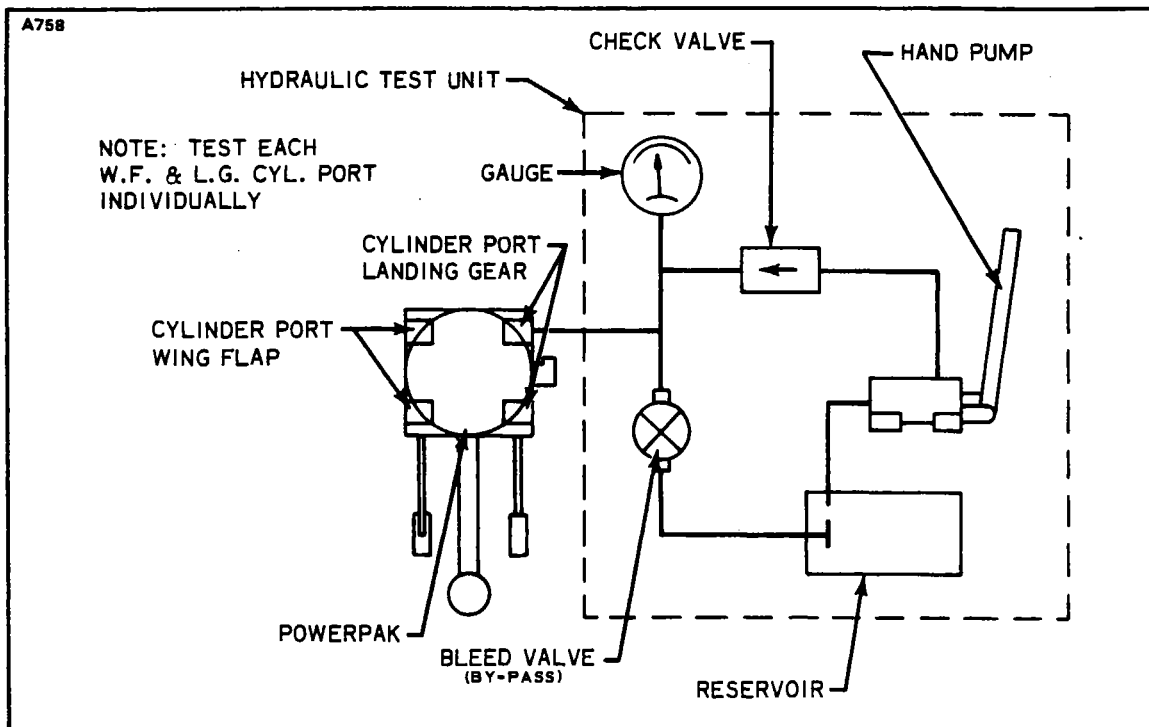

Figure 6-21. Checking and Adjusting Powerpak
1. Hydraulic test unit as described in paragraphs 6-5 or 6-6 and arranged as shown in Figure 6-21 and 6-22.
a. Connect the pressure line of a hydraulic test unit to the landing gear extension port (C2) fitting at the right forward side of the powerpak. (Refer to Figure 6-21.)
- a. Connect the pressure line of a hydraulic test unit to the landing gear extension port (C2) fitting at the right forward side of the powerpak. (Refer to Figure 6-21.)